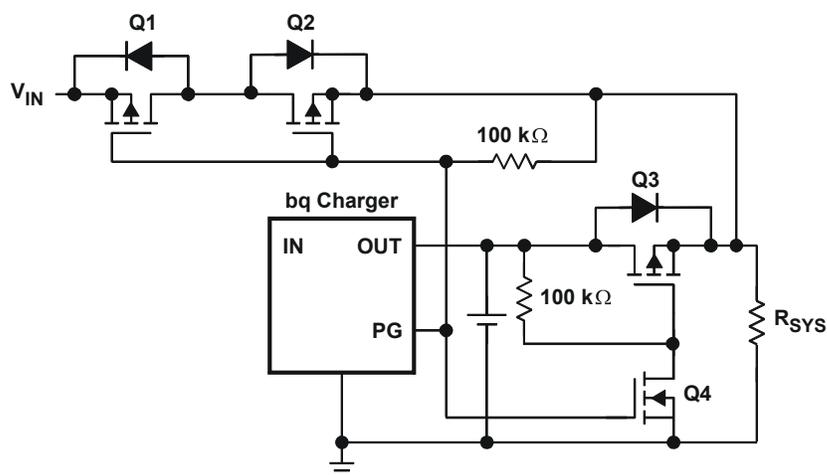

Figure 2. System Load Switched From Input to Battery With Loss of Input Power
- Power System From the Input Source.** If the load is dynamic, one solution is to power the system from the charger's input and switch the system load to the battery if the input is lost (see Figure 2). This switching between power sources is controlled by the power-good status pin (/PG) option offered on the bq24010 and bq24020 chargers. When the input source is present, the /PG pin is low, which turns on Q1/Q2 and ties the input source to the system load. Transistors Q3 and Q4 are off, which disconnects the battery from the system. If the power goes away, the /PG pin is pulled high, turning off Q1/Q2 (disconnects the input from the system) and turning on Q3 and Q4 which connects the battery to the system. Note that Q2 is optional if there is not an issue of the battery discharging to a load on the input when the input is not powered. If Q1 through Q4 are chosen with turnon thresholds of ~ 3.5 V, then there is soft-switching during power transfer (i.e., FETs are in their linear region with minimal shoot-through current).
- **Power System From the Input Source** – The circuit shown in Figure 2 and previously discussed also can be used to isolate the battery from the system load.